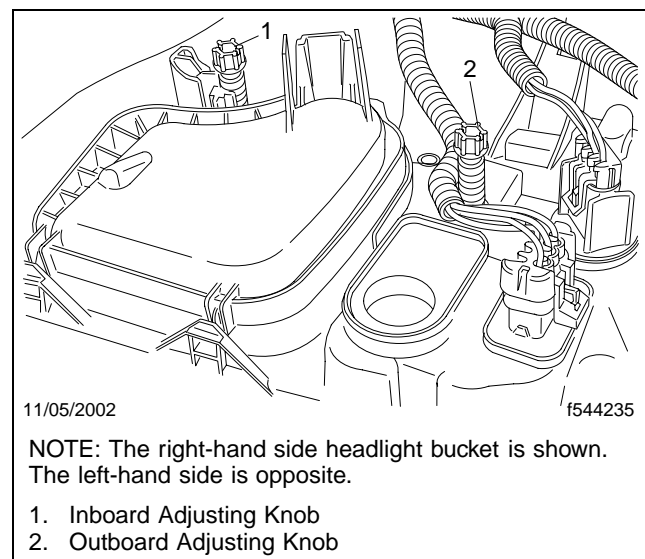

Fig. 4, Headlight Adjusting Knobs
1. Lift the flap over the rear end of the headlight bucket to expose the two plastic adjusting knobs on each headlight. See **Fig. 4**.